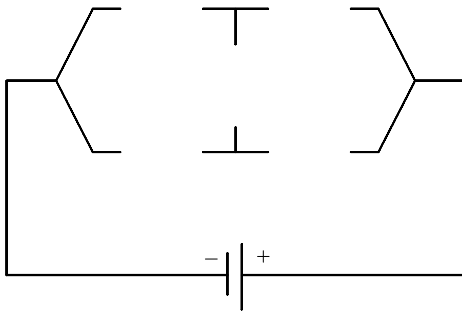

Figure 15-40 Electric circuit diagram without resistors for Exercise 2
1. Draw the electric circuit diagram as shown in Figure 15-40 (assume the dimensions).